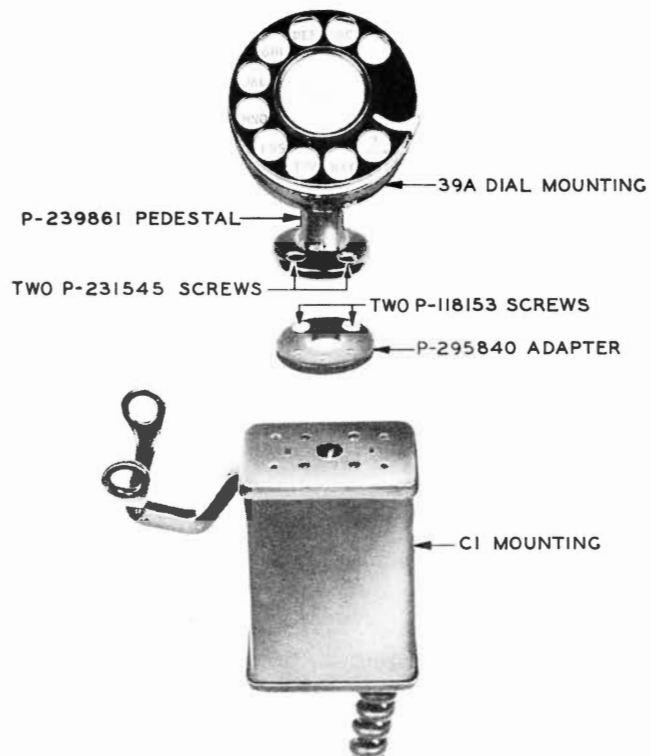

Fig. 16 — 39A Dial Mounting with C1 Handset Mounting
6.07 The 39A dial mounting used with C1 handset mounting has two mounting holes in base and can be attached directly to C1 handset mounting with the two screws furnished (see Fig. 16).
- An adapter and two mounting screws are furnished with 39A dial mounting (see Fig. 16).